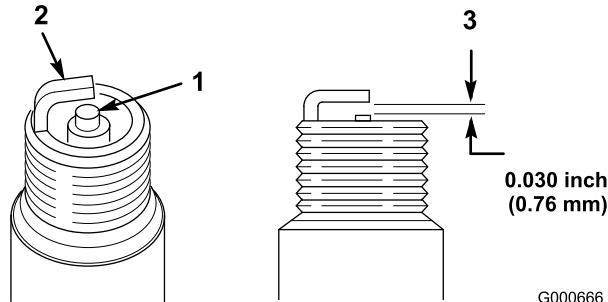

Figure 25
1. Look at the center of the spark plug (Figure 25). If you see light brown or gray on the insulator, the engine is operating properly. A black coating on the insulator usually means that the air cleaner is dirty.
2. Check the gap between the center and side electrodes (Figure 25) and bend the side electrode if the gap is not correct.